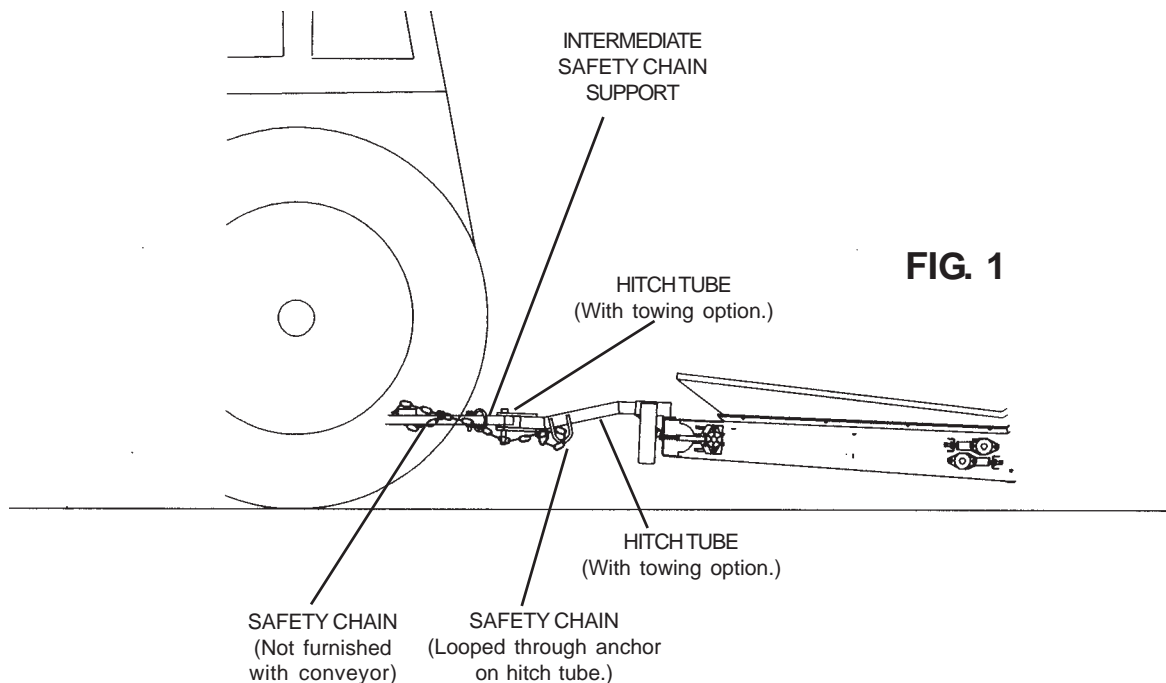

FIG. 1
2. An auxillary attachment system (safety chain) is required to retain the connection between towing and towed machines in the event of separation of the primary attachment system. The safety chain should be routed through the tube on the hitch and fastened to the tractor. A clevis or intermediate chain support should be fastened to the tractor drawbar no farther than 6" from the hitch pin. See Fig. 1.